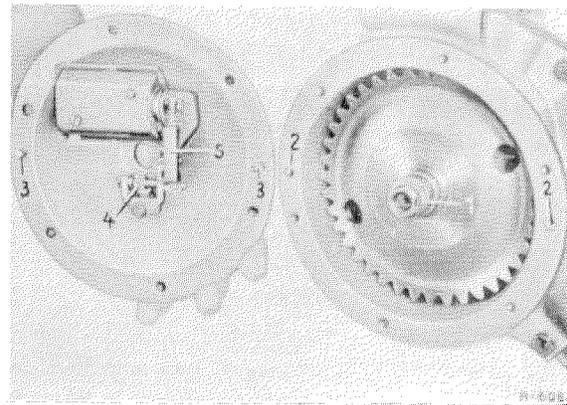

Figure 01-11/3
5. Secure the protecting cover with the fixing screws and guard the two screws with seal wire and lead seal (see Figure 01-11/1).